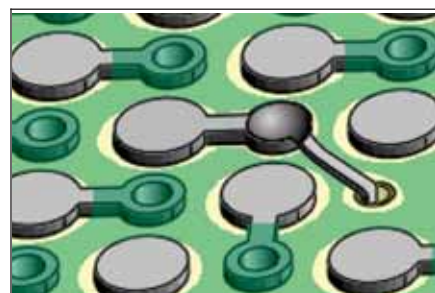

Figure 3 Solder the foil jumper to the plated hole connected to the BGA pad.
10. Apply a small amount of liquid flux and solder the foil jumper to the plated hole connected to the BGA pad using solder and a soldering iron. Make sure the foil jumper is properly aligned. (See Figure 3.)